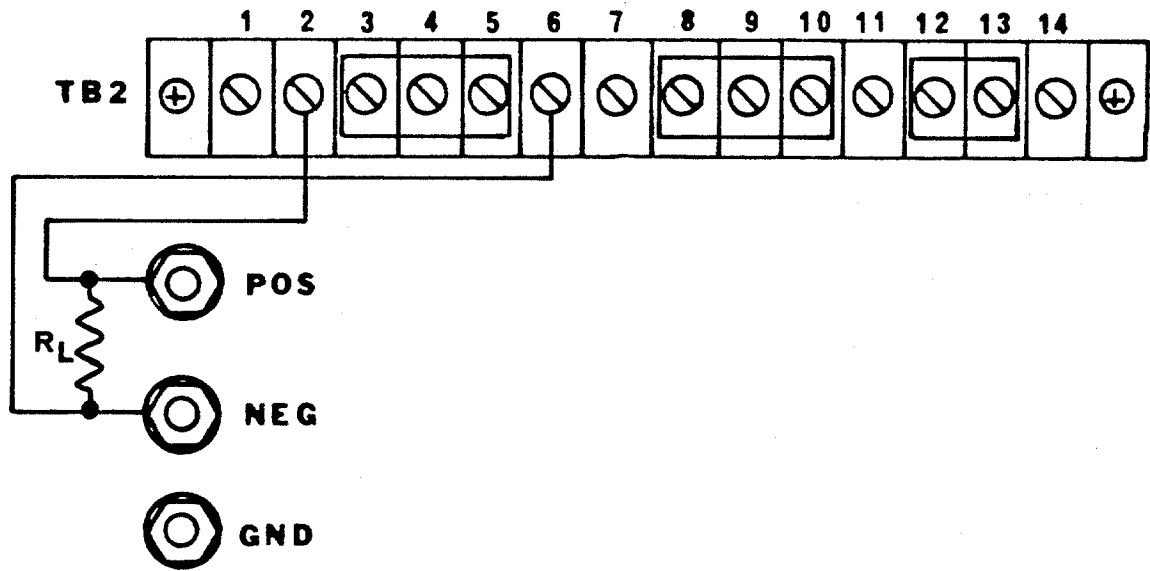

Figure 3-6. Remote Sensing Operation
g. Remote Sensing. In applications where the load is located some distance from the power supply or the voltage drop of the power output leads significantly interferes with load regulation, remote voltage sensing may be used. When remote sensing is used, voltage is regulated at the load versus the power supply output terminals. To connect the power supply for remote voltage sensing (see figure 3-6 for strapping requirements):
(1) Remove jumper between the positive sense terminal (TB2-2) and the positive output monitor terminal (TB2-1).
(2) Remove jumper between the negative sense terminal (TB2-6) and the negative output monitor terminal TB2-7.
(3) Connect sensing leads from the load positive to TB2-2 and the load negative to TB2-6. A shielded, twisted pair is recommended to avoid potential noise interference.